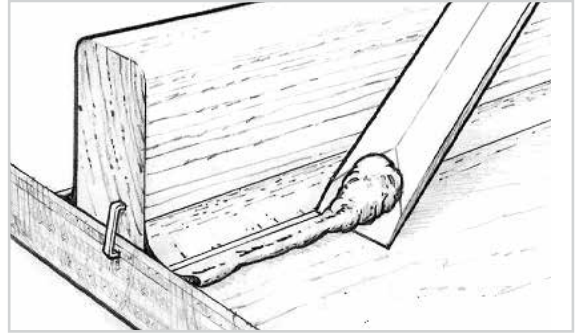

Figure 16-13 Clean up remaining excess epoxy outside of the clean margin before it cures.
3. Clean up the remaining excess material outside of the margin by using a sharpened mixing stick or a putty knife (Figure 16-13). Fiberglass cloth or tape may be applied over the fillet area before the fillet has cured (or after the fillet is cured and sanded).